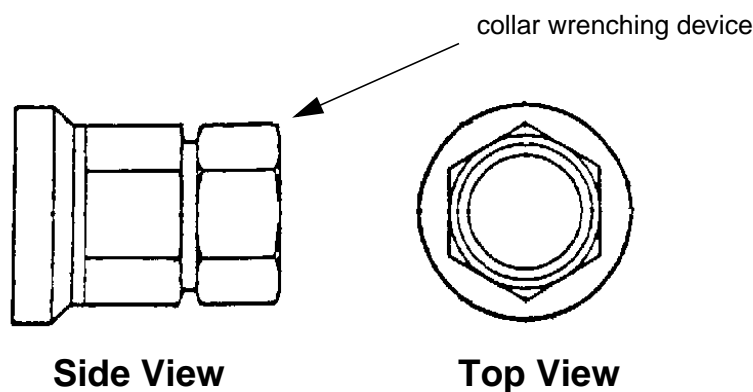

Figure 6 - Double Hex Hi-Lite ST Collar (e.g., B0206017TP)
- Step 1. Fit the collar specified on the engineering drawing over the threaded portion of the pin with the collar wrenching device outermost (see Figure 6).